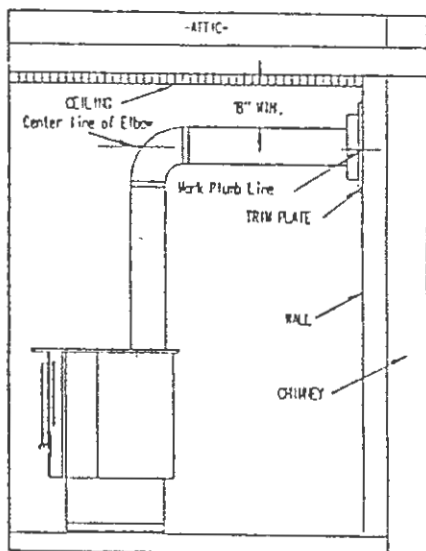

FIGURE 6 Flue Gas Exit into Masonry Chimney
- (c) Secure each section to each other using at least three (3) sheet metal screws or rivets.
- (d) Use the screws and pipe mounting clips provided (or optional chimney connector PN MA8CHIMCNB) and secure the chimney connector to the heater. (See Figure 6)